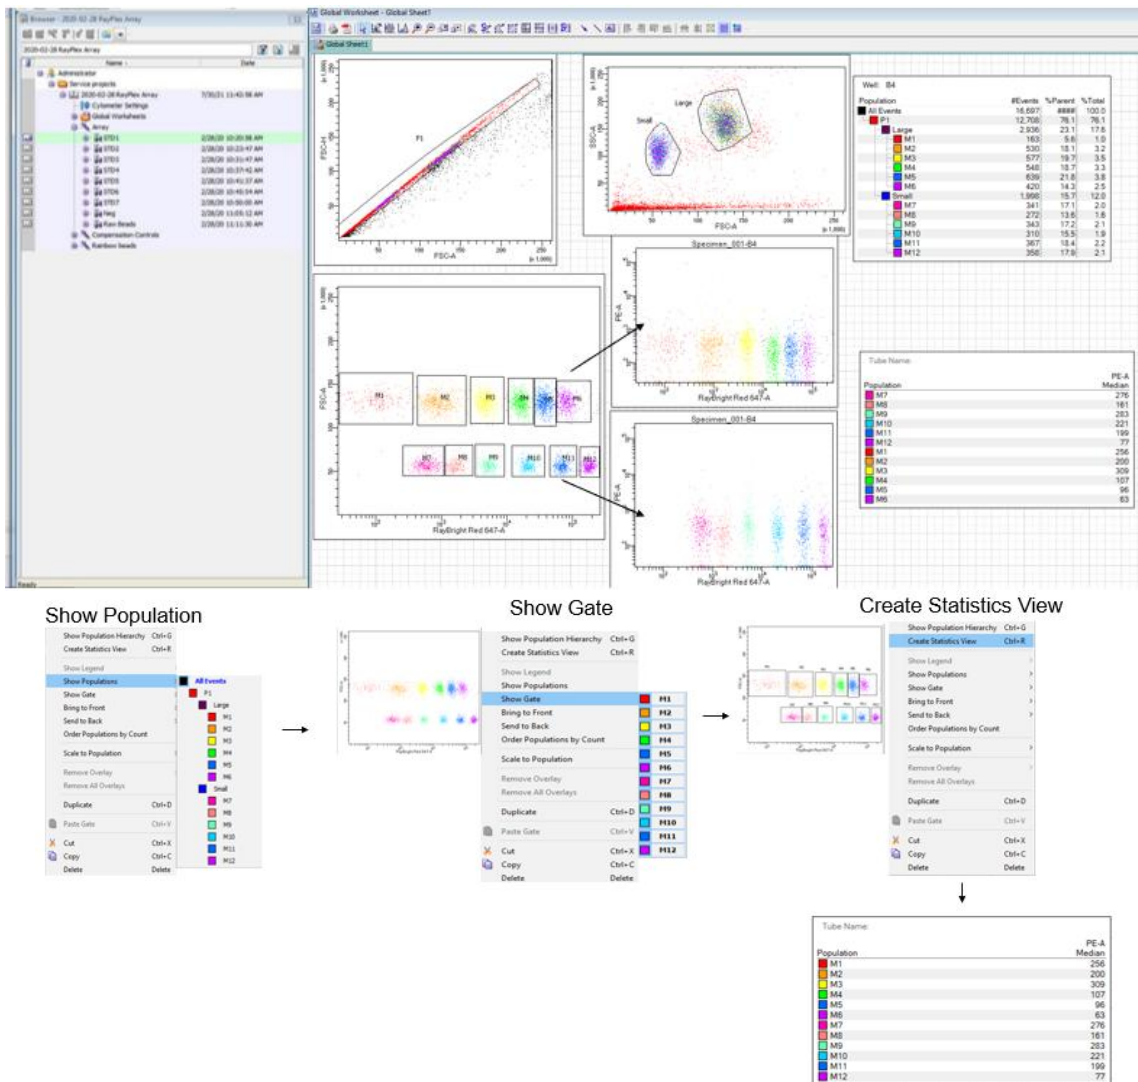
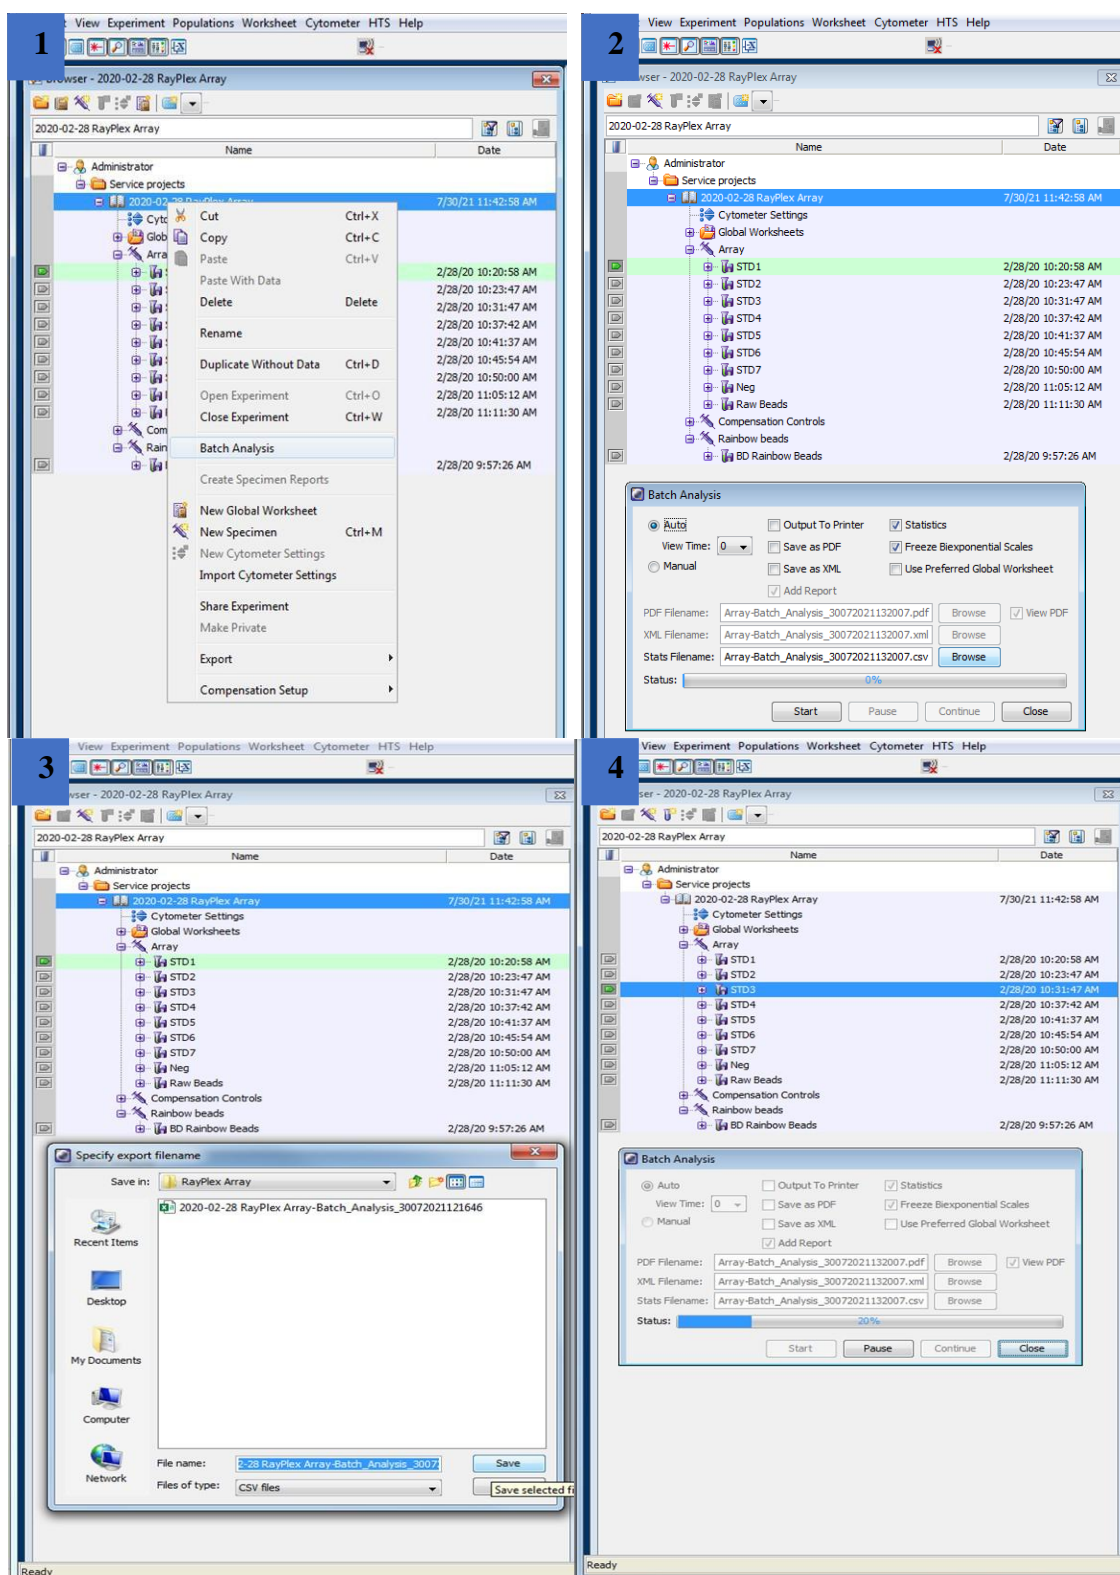

Figure 4. Screenshot of Creating Statistics View from the dot plot of gated beads populations. This is representative data only.
Figure 5. Screen shot showing how to begin the batch analysis through manual tube mode.
Batch analysis allows exporting PE MFI data of each bead population directly from FACS Diva. Before batch analysis, it's important to create statistics view from the dot plot of gated beads populations and choose "PE-A Median" to be shown (Figure 4). Batch analysis can be done in either manual tube mode or HTS mode. Both methods for batch analysis are described below (Figure 5 and 6).
1. Create a dot plot by SSC-A (linear) and APC-A (log) to show all beads populations and make a gate for each population (see figure 4, “Gated Dot Plot”). Right click on the dot plot to “Create Statistics View”, then edit the statistics view so that “PE-A Median” of gated beads populations are shown (figure 4, “Statistics View of Gated Plot”).